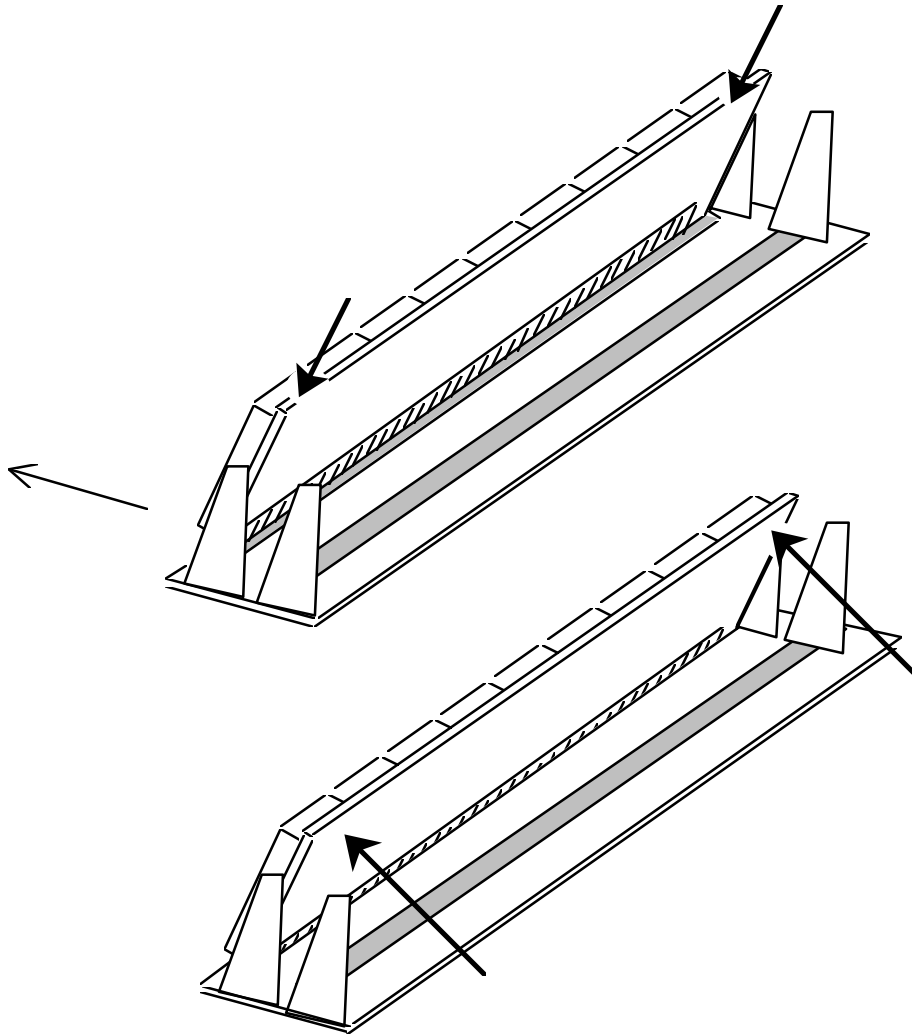

Figure 33 - Inserting SIMM into Socket
7. Hold the SIMM by its edges, with the memory chips facing the front of the MAXserver , then insert the SIMM into the slot. Angle the top of the SIMM (about 30°) toward the rear of the MAXserver (see Figure 33).